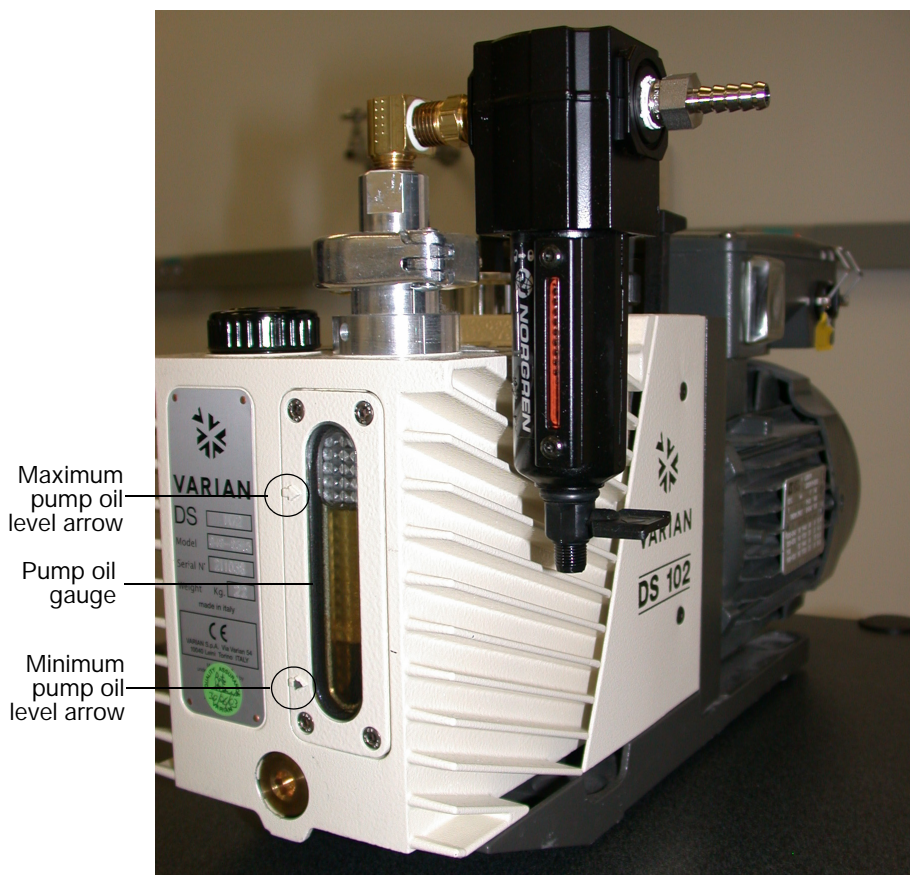

Figure 5-2 Roughing pump oil gauges
3. Check the oil mist filter gauge (Figure 5-2).
7. Check the roughing pump oil gauge (Figure 5-2). If the oil level is low, contact Applied Biosystems/MDS SCIEX Technical Support (see “How to Obtain Support” on page x). The oil level should be between the visible arrows that indicate the maximum and minimum acceptable levels.